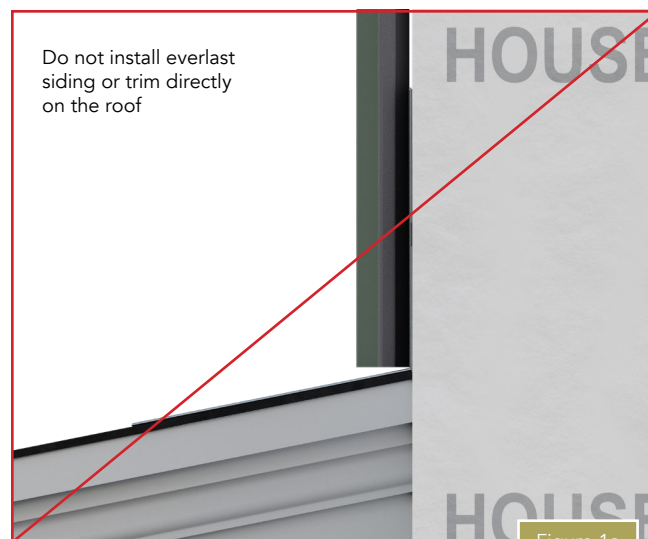

Figure 1a
- When installing panels and trim along rooflines, always provide 1" minimum space between the roof and first course of siding (Figure 1a/b).